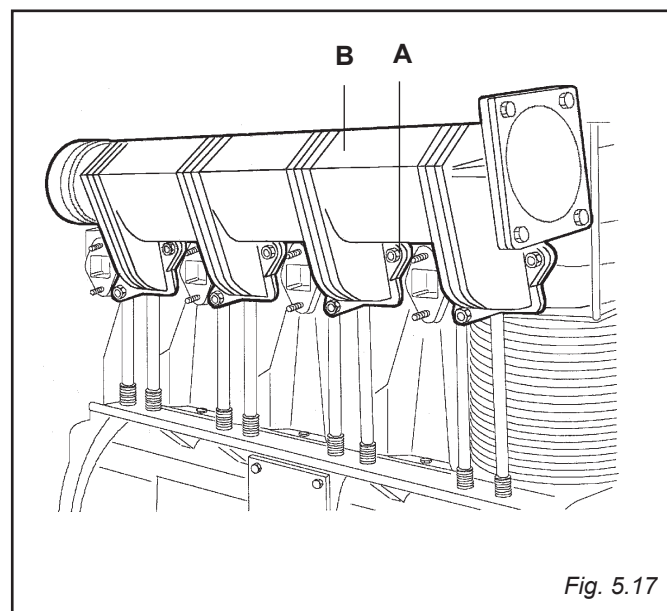

Fig. 5.17
5.21 INTAKE MANIFOLD (FIG. 5.17)